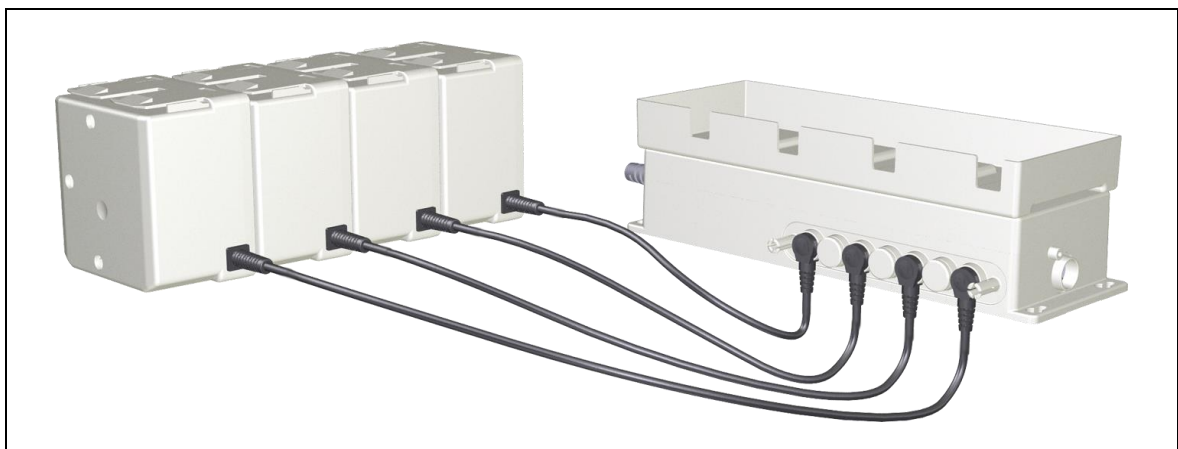

Figure 10 Charging four AG7s at a charging station (charging station sold separately)
- Depending on your model, the AG7/AG9 may either be automatically charged using the electronics in the control unit or drive system (e.g. the AG7) or using the charging station (sold separately), as shown in Figure 10.
The AG7/AG9 is charged by the drive or control unit that it is connected to. It is also possible to use an external charging station to charge the AG7 (as shown in Figure 10).